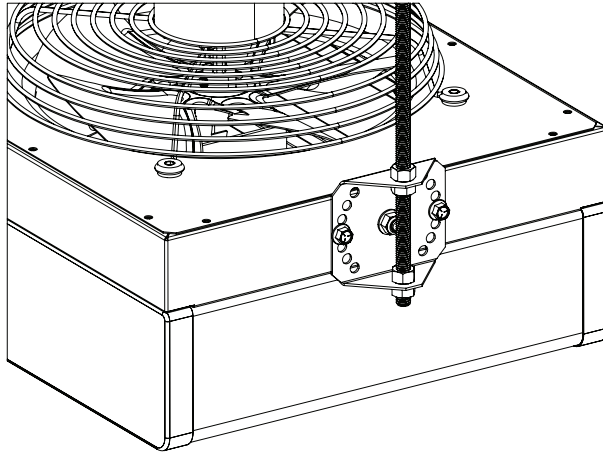

Figure 2. Hanger Bracket
Suspend the unit using 3/8-inch field-supplied threaded rods (maximum length is 10 feet (3 meters)) and hex nuts. The rods are secured to two hanger brackets (see Figure 2) that are shipped with the unit in the accessory kit. The hanger brackets may be rotated to one of six positions in order to mount the unit at a desired angle.
2. Remove rubber cap from threaded stud on each side of unit and slide center hole of hanger brackets from accessory kit over studs—each stud acts as pivot when adjusting bracket angle. Install 5/16-inch hex nuts (see Figure 2) from accessory kit on studs to secure brackets.
3. Position hanger brackets to desired angle and secure each bracket using two 1/4-inch bolts (see Figure 2) from accessory kit installed in selected threaded holes in each bracket.
5. Insert rod into bottom hole of each hanger bracket and install fourth field-supplied hex nut. Adjust rods/nuts for desired mounting height and tighten all hex nuts flush against brackets (see Figure 2).